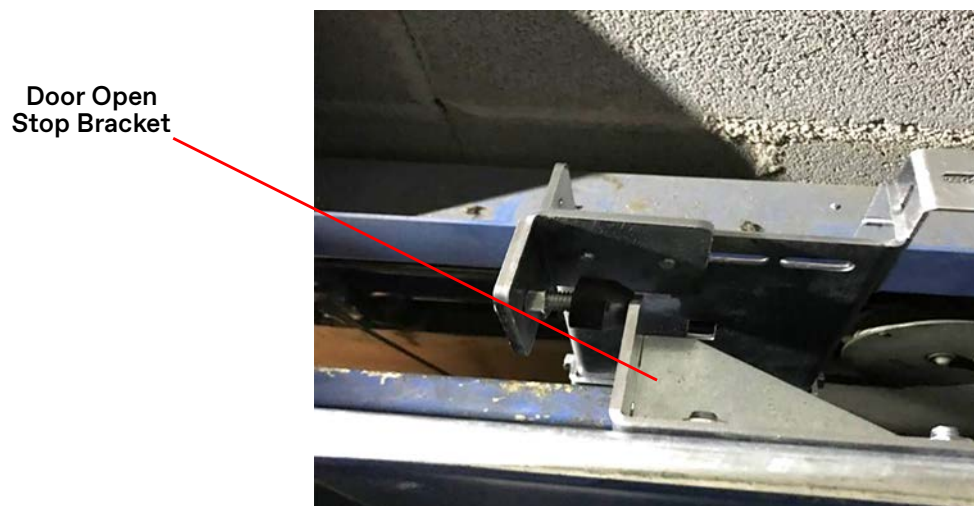

Figure 7 - Door Open Stop Bracket Installation
7. Install the door open stop bracket to the unistrut so that the car door opens to the original open position. See Figure 7.